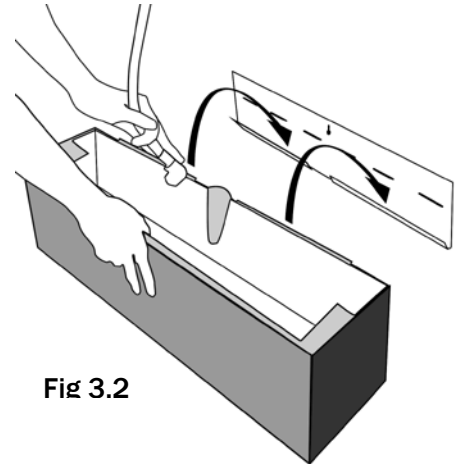

Fig 3.2
2. Hang the reservoir (L) on the reservoir wall bracket (D). Make certain the reservoir (L) is well seated and centered on the bracket (Fig 3.2).